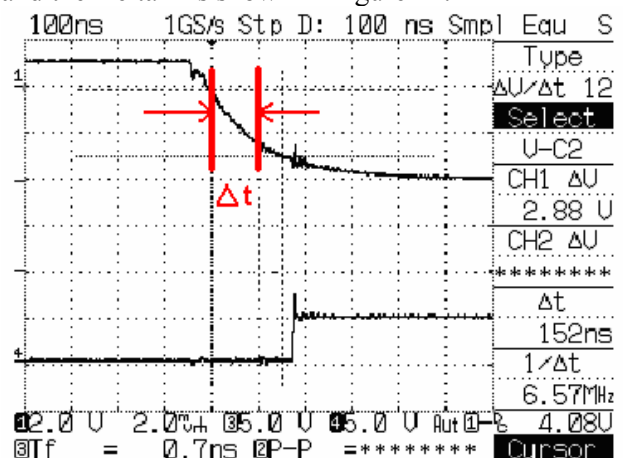

Fig.12
Step 7: Timing adjustment. The Timing adjustment should be performed under light load circumstance. A variable resistor, 0~100K Ω , is connected from Timing pin to V_{DD} and adjust the variable resistor. Changing the resistor value will change dv/dt slope. This resistor value normally is from 8Kohm to 20Kohm. The typical relation between resistor value and the Delta T is shown in Figure 12.